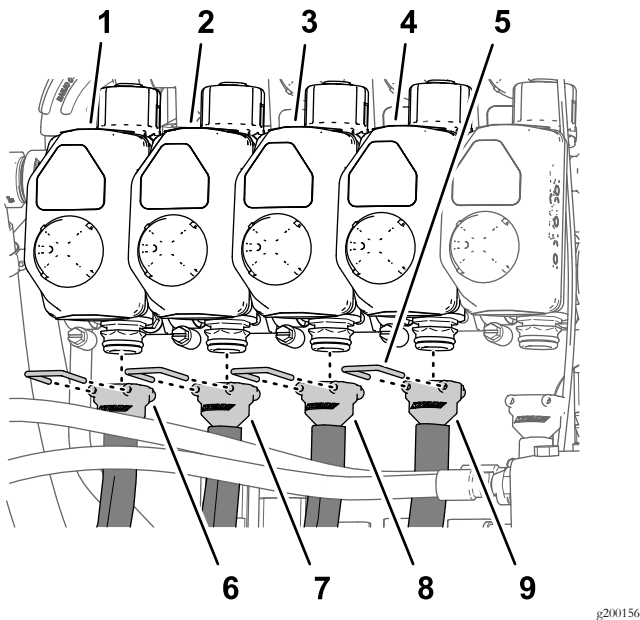
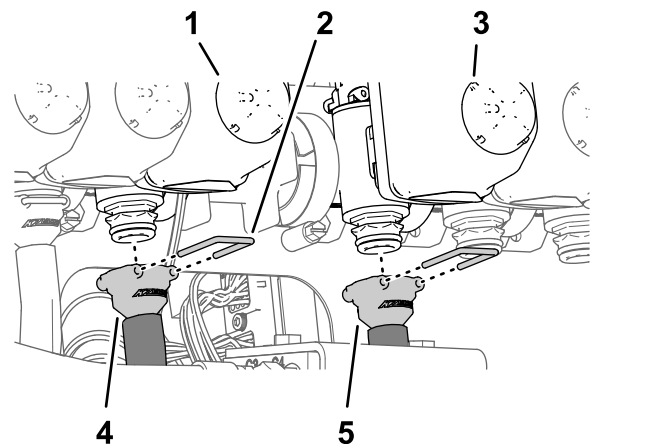
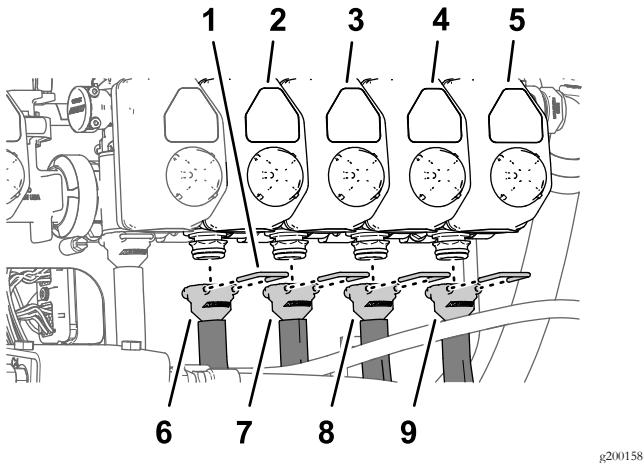

Figure 124
Figure 125
Figure 126
Note: Refer to Figure 124 in Assembling the Hoses to Nozzle Valves 1 through 4 (page 55), Figure 125 in Assembling the Hoses to Nozzle Valves 5 and 6 (page 55), and Figure 126 in Assembling the Hoses to Nozzle Valves 7 through 10 (page 56) for the nozzle-valve positions.
1. Assemble the straight barbed fitting of a supply-hose 279 cm (110 inches) onto the coupler of nozzle valve 1 (Figure 124).
2. Secure the barbed fitting to the coupler with a retainer (Figure 124).
3. Assemble the straight barbed fitting of a supply-hose 234 cm (92 inches) onto the coupler of nozzle valve 2 (Figure 124).
4. Secure the barbed fitting to the coupler with a retainer (Figure 124).
5. Assemble the straight barbed fitting of a supply-hose 188 cm (74 inches) onto the coupler of nozzle valve 3 (Figure 124).
6. Secure the barbed fitting to the coupler with a retainer (Figure 124).
7. Assemble the straight barbed fitting of a supply-hose 188 cm (74 inches) onto the coupler of nozzle valve 4 (Figure 124).
8. Secure the barbed fitting to the coupler with a retainer (Figure 124).
1. Assemble the straight barbed fitting of a supply-hose 81 cm (32 inches) onto the coupler of nozzle valve 5 (Figure 125).
2. Secure the barbed fitting to the coupler with a retainer (Figure 125).
3. Assemble the straight barbed fitting of a supply-hose 81 cm (32 inches) onto the coupler of nozzle valve 6 (Figure 125).
4. Secure the barbed fitting to the coupler with a retainer (Figure 125).
1. Assemble the straight barbed fitting of a supply-hose 188 cm (74 inches) onto the coupler of nozzle valve 7 (Figure 126).
2. Secure the barbed fitting to the coupler with a retainer (Figure 126).
3. Assemble the straight barbed fitting of a supply-hose 188 cm (74 inches) onto the coupler of nozzle valve 8 (Figure 126).
4. Secure the barbed fitting to the coupler with a retainer (Figure 126).
5. Assemble the straight barbed fitting of a supply-hose 234 cm (92 inches) onto the coupler of nozzle valve 9 (Figure 126).
6. Secure the barbed fitting to the coupler with a retainer (Figure 126).
7. Assemble the straight barbed fitting of a supply-hose 279 cm (110 inches) onto the coupler of nozzle valve 10 (Figure 126).
8. Secure the barbed fitting to the coupler with a retainer (Figure 126).